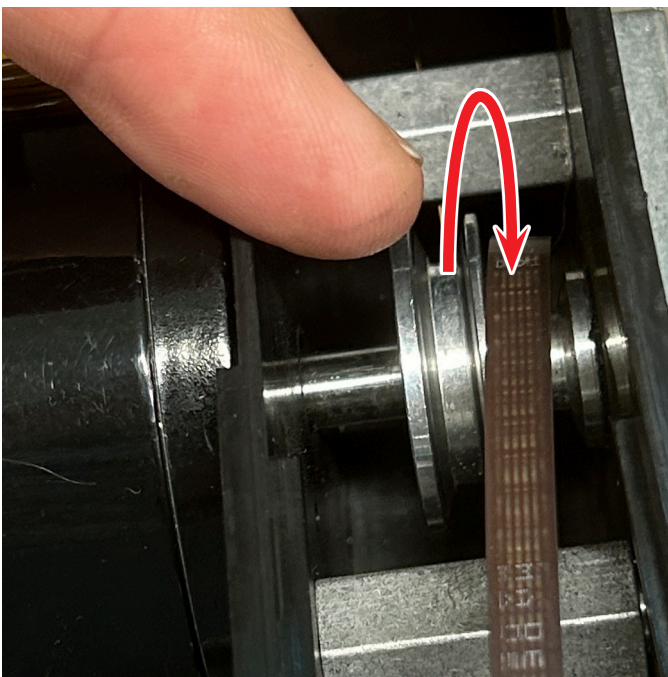
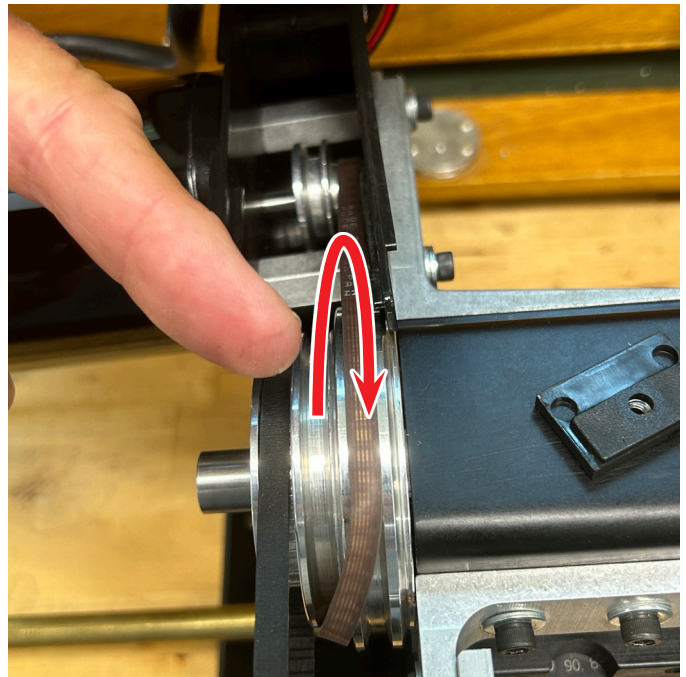

FIGURE 5
FIGURE 6
- E. Turn the headstock pulley and walk the drive belt off of the motor pulley first to the smaller low-speed groove (see Figure 5). Then, reverse the pulley direction and walk the belt onto the larger low-speed groove on the headstock pulley (see Figure 6).